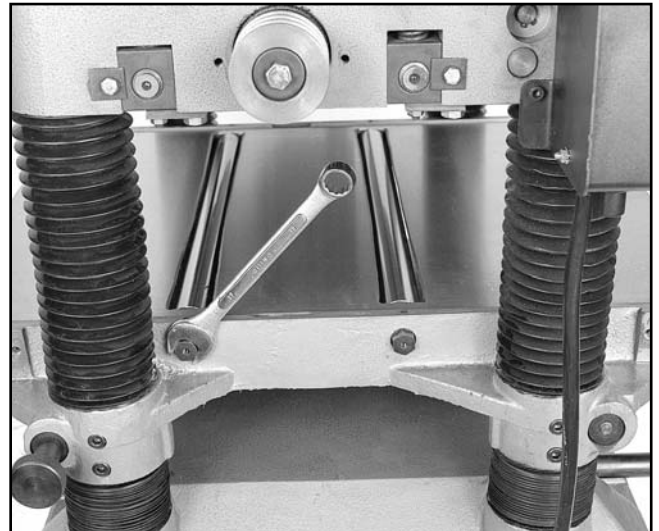

Figure 12. Roller height adjustment.
3. To adjust the rollers, loosen the setscrews at the left end of the rollers and, using an Allen® wrench, raise or lower the rollers on their eccentric shafts to reach your desired height across the table. **See Figure 12.**